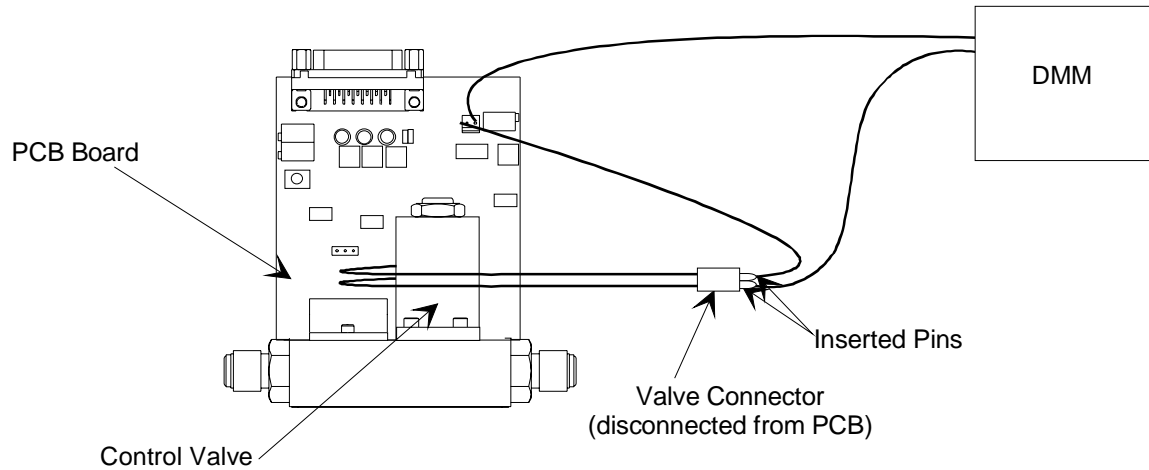

Figure 6: Control Valve Connected to a Digital Multi Meter (DMM)
10. Use a clip lead to place the DMM in series between the valve connector pin and the remaining pin on the PCB, as shown in Figure 6.